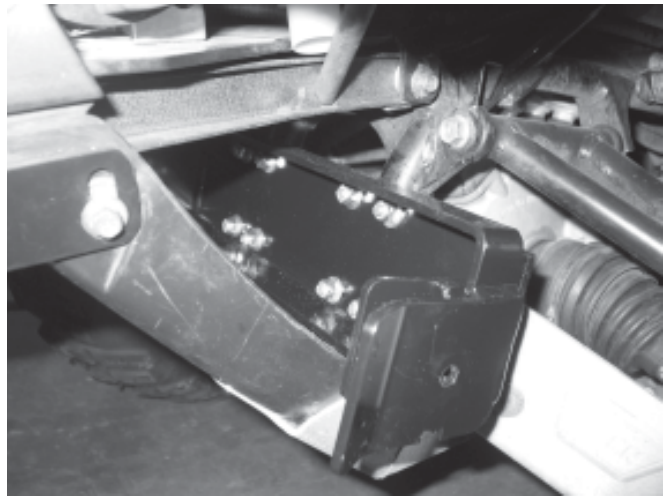

Figure 4
4. On front side of plow mount place 5/16" washer and nuts on u-bolts and tighten to 17lb. ft. (22.5 N-m), as shown in Figure 4. An extension and u-joint attachment on the ratchet will provide better access to mounting hardware.